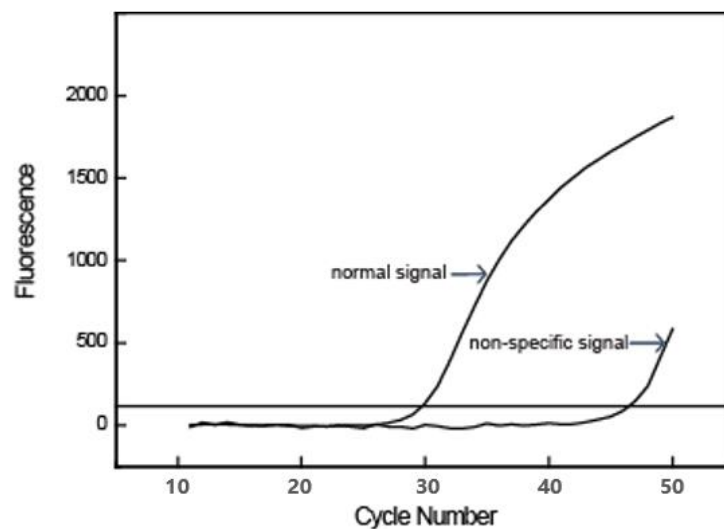

Figure 3. Non-specific signal in sample
- C_q values for positive sample signals should be below 40. C_q values above 40 might be non-specific amplification (shown in **Figure 3**). Repeat the test with fresh RNA, if the second test is positive, the sample is positive for the corresponding fusion gene. Other methods are recommended to be used to confirm the results from positive tests with C_t values above 40.